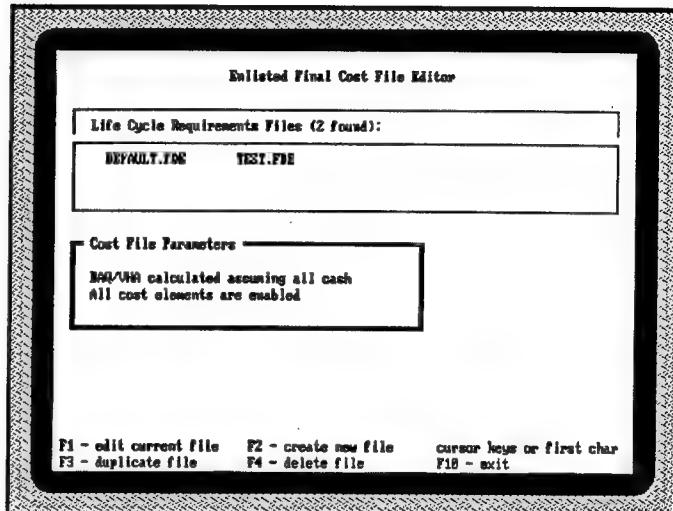

Figure 9.
**Operation:** In this program, the top of the screen displays the list of available final cost files. The bottom block of the screen displays the parameter settings of the enlisted final cost file which is currently highlighted at the top of the screen. (Figure 9.) As you cursor through the list of final cost files, the parameter display will change to match the highlighted final cost file.